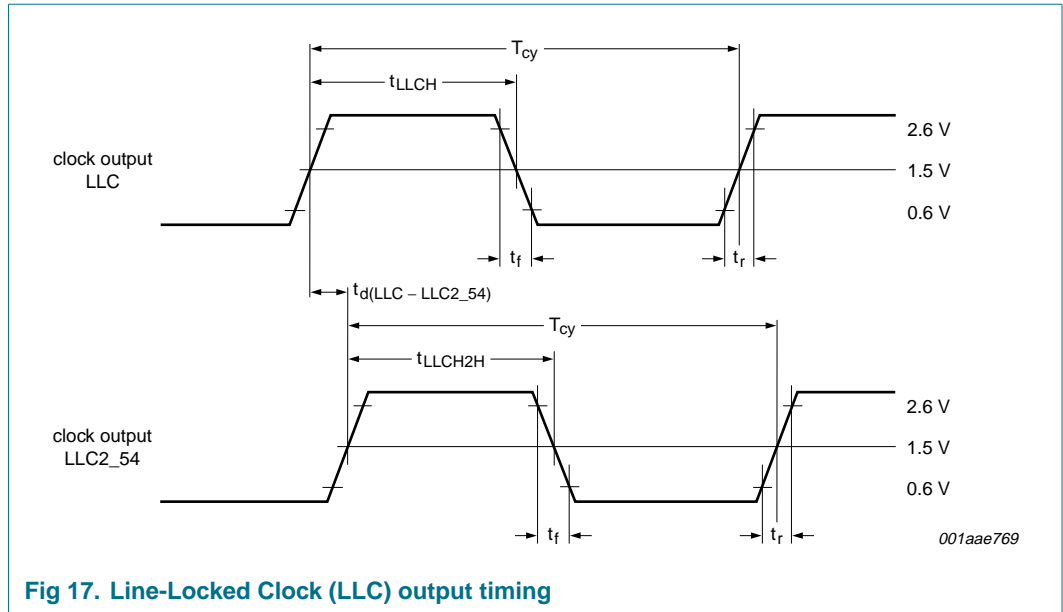

Fig 17. Line-Locked Clock (LLC) output timing
[1] The effects of rise and fall times are included in the calculation of th(Q) and tPD. Timings and levels refer to drawings and conditions illustrated in Figure 17.